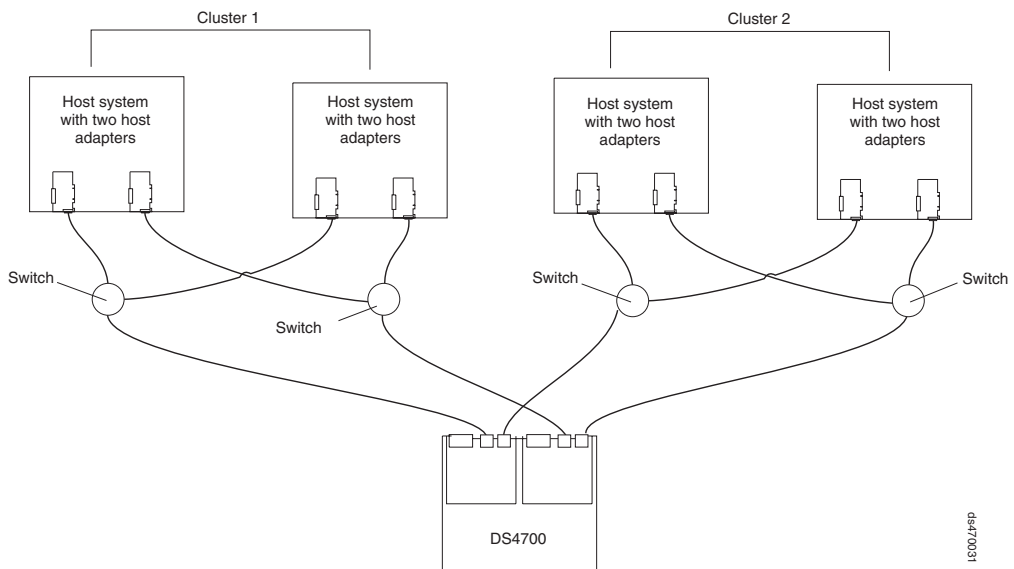

Figure 91. Example of a two-cluster configuration
- Two clusters, as shown in Figure 91 on page 110
Figure 91 shows an example of a two-cluster configuration.